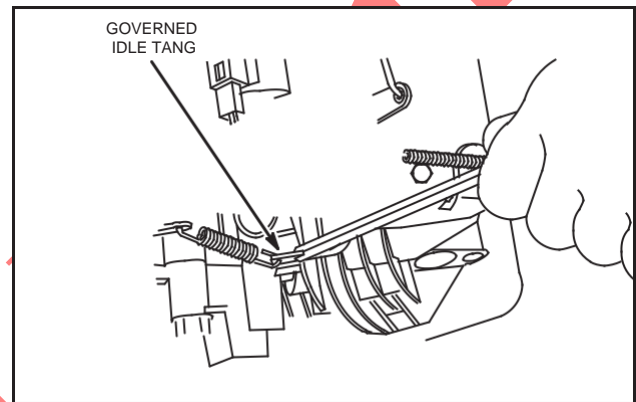

Fig. 26 - Adjust Governed Idle
3. Bend governed idle tang to obtain 1750 RPM, Fig. 26.